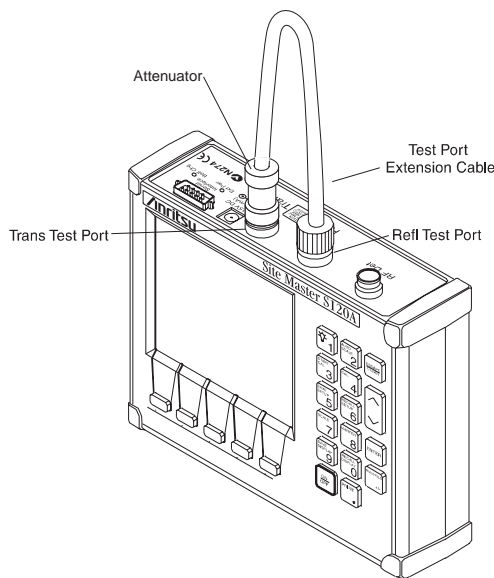

Figure 4. Test Setup
22. Connect the 10 dB attenuator to the Trans Test Port (refer to Figure 4) and verify that the reading is: